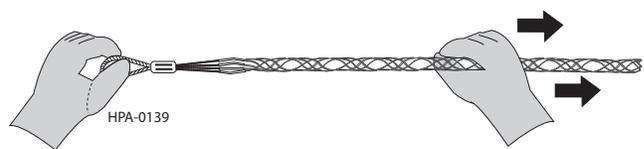

Figure 2
**Step 3:** Grasp the pulling eye in one hand (gloves recommended) and smooth out the mesh with the other, tightening the wires (Figure 2). This technique is critical when reusing grips.